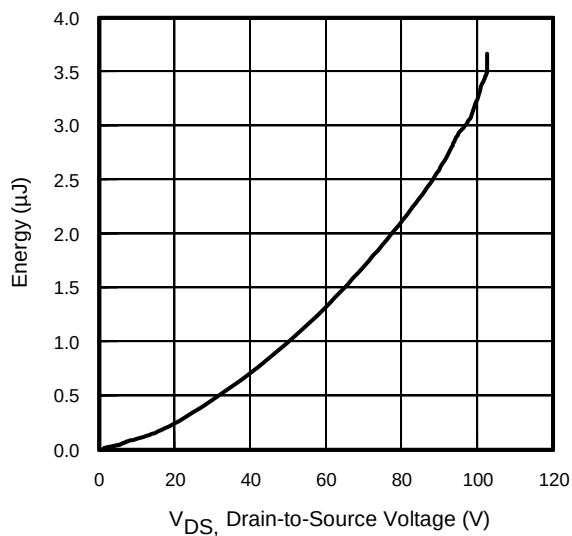

Fig 11. Typical  $C_{OSS}$  Stored Energy
| $C_{oss \text{ eff. (ER)}}$ | Effective Output Capacitance (Energy Related) ⑦ | —    | 650   | —    |       | $V_{GS} = 0V, V_{DS} = 0V \text{ to } 80V$ ⑧, See Fig.11 |